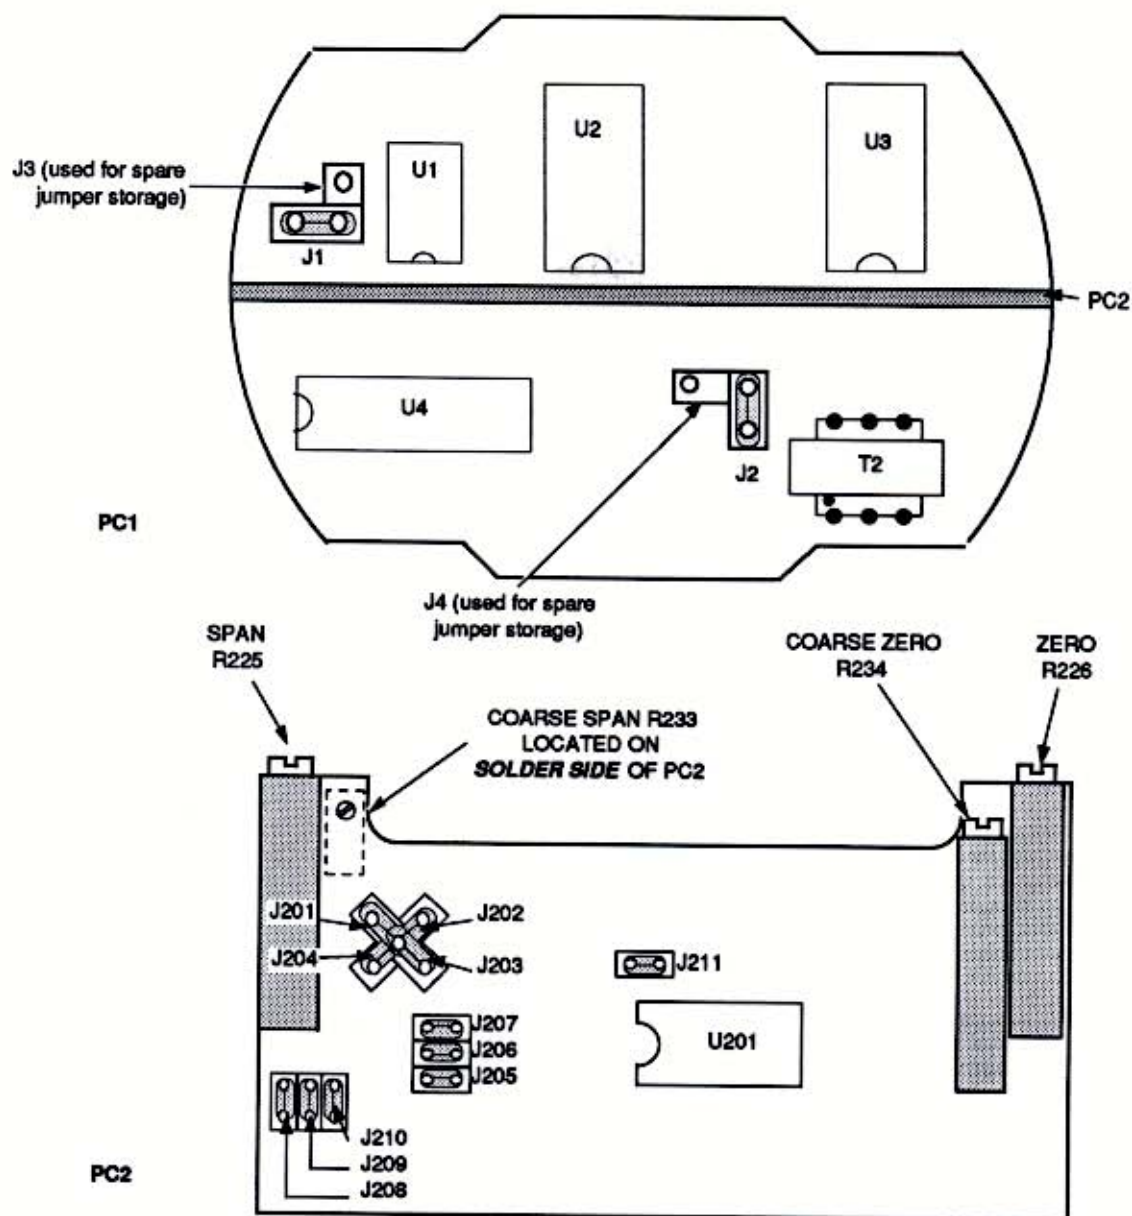
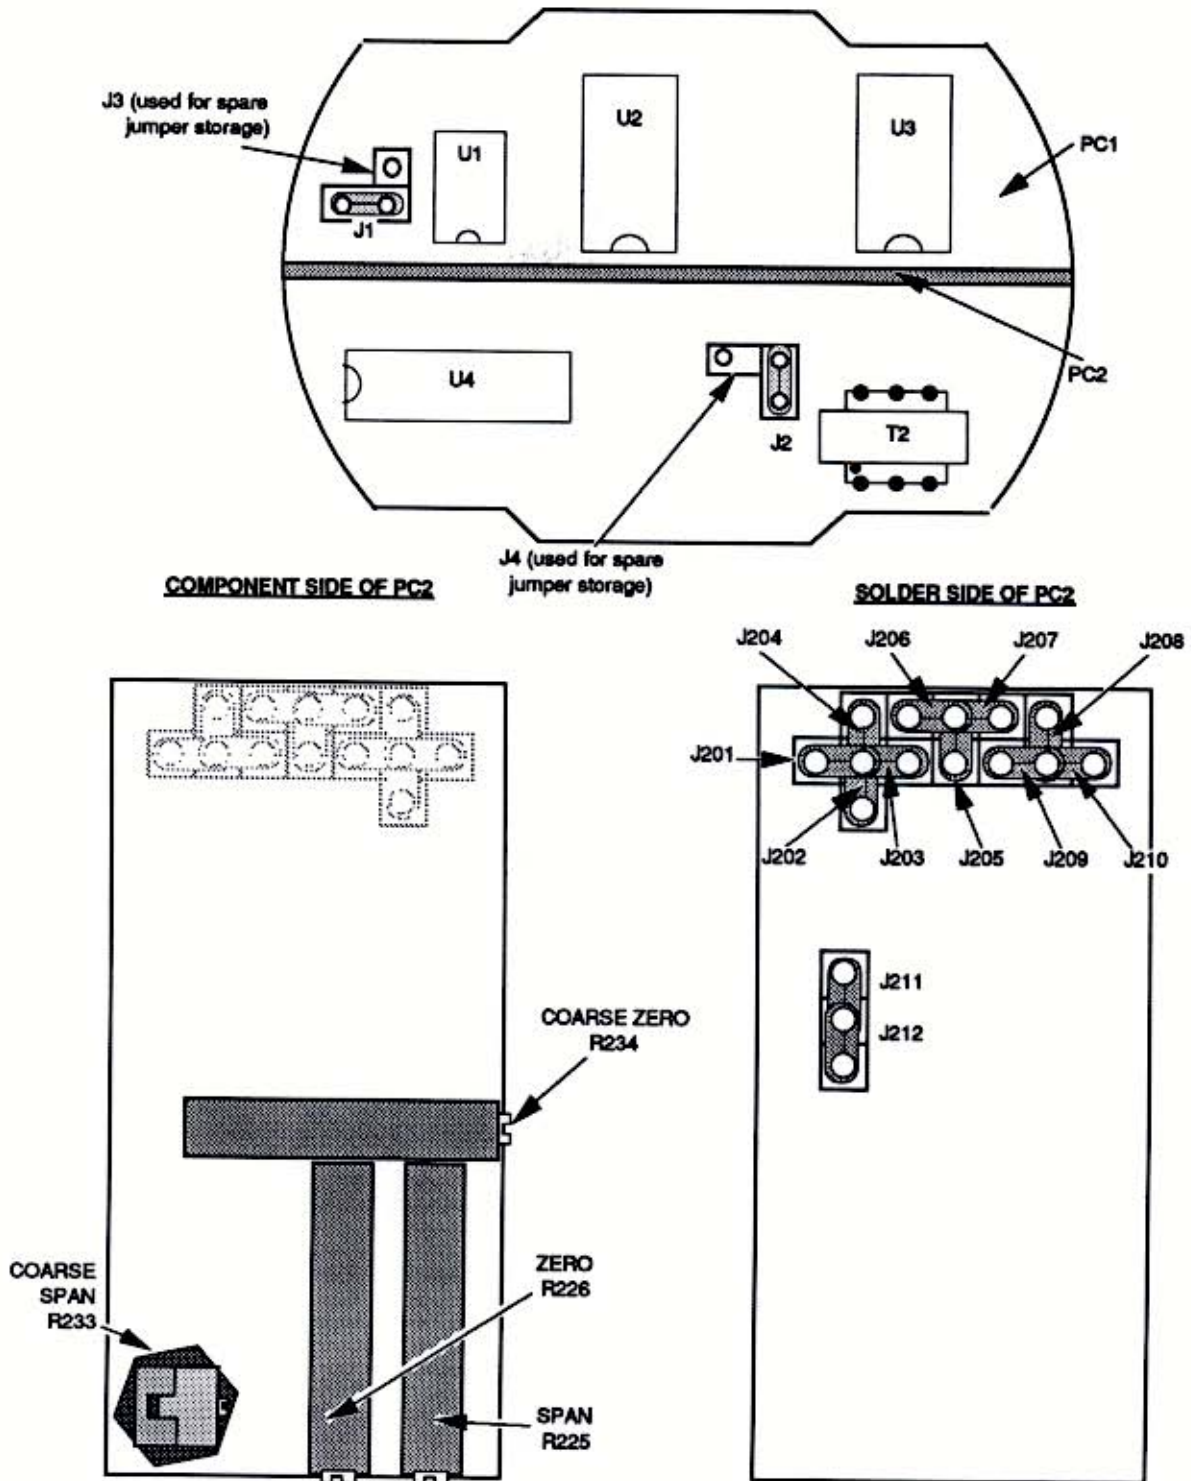

Figure 4. HP-style EP-TCX Jumpers and Potentiometers
Figure 5. DIN-style EP-TCX Jumpers and Potentiometers
To verify the installation of the negative EZ option in your unit, disassemble the EP-TCX, and check to see that the jumper at J1 (on PC1) is in its "storage" position (set on one pin, or on J3 in figure 4).
Both normal operation, and Positive EZ (>90% of span to 75 mV maximum) require the installation of the jumper across both pins, as is shown for the J1 position in figure 4.
Table 3 lists the jumper settings that are necessary to select the desired operating parameters for both the HP- and DIN-style EP-TCX's. HP-style jumpers and pots for both PC1 and PC2 are shown in figure 4. Figure 5 shows the location of jumpers on DIN-style EP-TCX PCB's.
1. Connect the unit to be calibrated as shown in figure 6, set the zero and span fine adjustment potentiometers (R226 and R225 respectively) to midscale (approximately 7.5 turns from either wiper stop). See figures 4 or 5, as appropriate, for the location of the potentiometers.
2. Set the zero and span coarse adjustments (R234 and R233 respectively) fully counterclockwise. See figures 4 or 5, as appropriate, for the location of the potentiometers.
2. If using a milliammeter to monitor EP-TCX output, turn coarse zero potentiometer (see figure 4 or 5) clockwise until 0% of rated output is produced. For 4-20 mA-rated units, adjust for 4 mA output; for 10-50 mA-rated units, adjust for 10 mA.
3. If using a voltmeter/resistor combination, turn coarse zero potentiometer (see figure 4 or 5) clockwise until output is 1 volt,  $\pm 0.001$  V.
5. If using a milliammeter, turn coarse span potentiometer (see figure 4 or 5) clockwise until output is 20 mA for LSC, 5-10, and 10 mV units. For 20-50 mV units, adjust until output is 50 mA.
6. If using a voltmeter/resistor combination, turn coarse span (see figure 4 or 5) clockwise until output is 5 volts,  $\pm 0.001$  V.